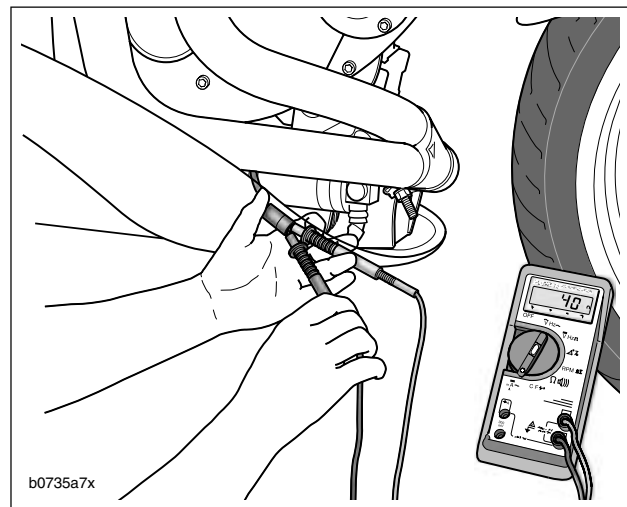

Figure 7-22. Check Stator AC Voltage Output
1. See Figure 7-22. Test AC output.